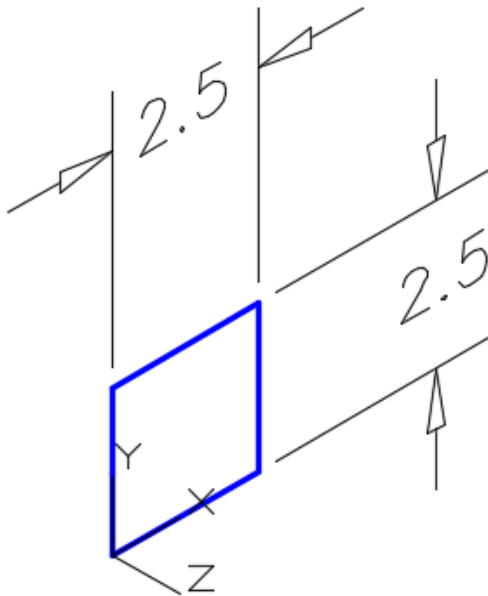

Figure Step 17A
Step 17 Draw a closed pline 2.5 x 2.5 inches. Start it by snapping to endpoint of the inner pline. (Figure Step 17A, 17B, and 17C)